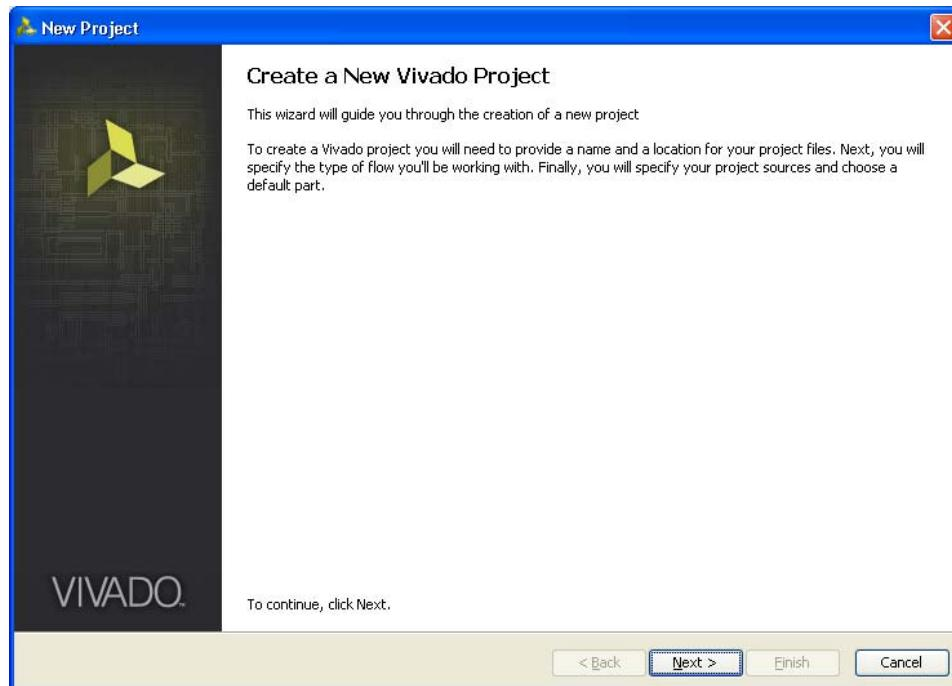

Figure 2-2: Create a New Vivado Tool Project
2. To create a new project, click the **Create New Project** option shown in Figure 2-1 to open the page as shown in Figure 2-2.